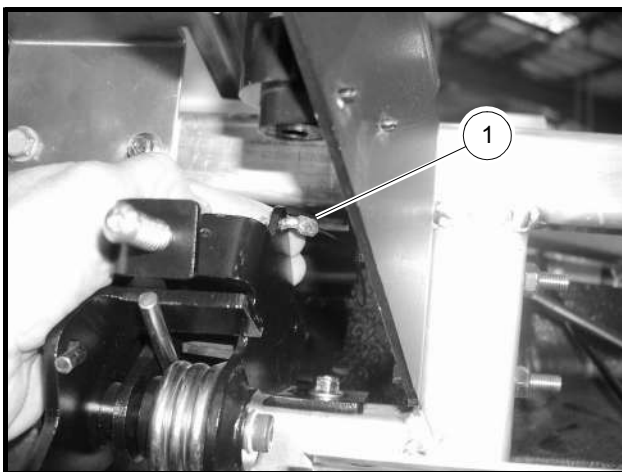

Figure 5-1 Z-Shaped Cable End (Gasoline Vehicles)
5. Disconnect the Z-shaped end (1) of the accelerator cable from the pedal (**Figure 5-1, Page 5-1**).